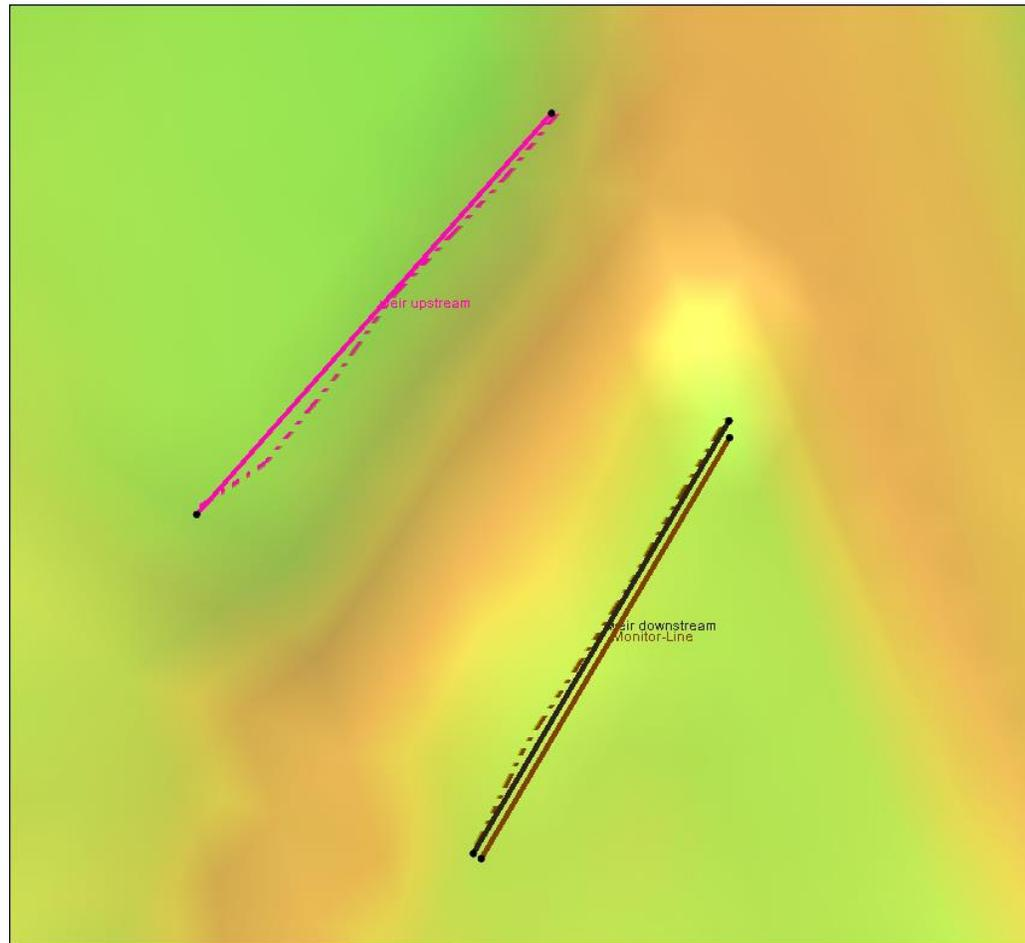

Figure 6 Monitor line offset from the downstream weir arc
- Using the **Create Feature Arc**  tool, create a monitor line barely offset from the downstream weir face arc. Be sure to zoom in so that the arc does not snap to the same location as the weir arc (see Figure 6).
The dotted lines displayed in the Figure 6 and on the computer screen represent the “Snap Preview” for the boundary condition arcs. The snap preview displays where the boundary condition arcs will be applied to the mesh. In the case of the downstream weir arc and monitor line arc, the snap preview lines for both arcs overlap the same element edges.